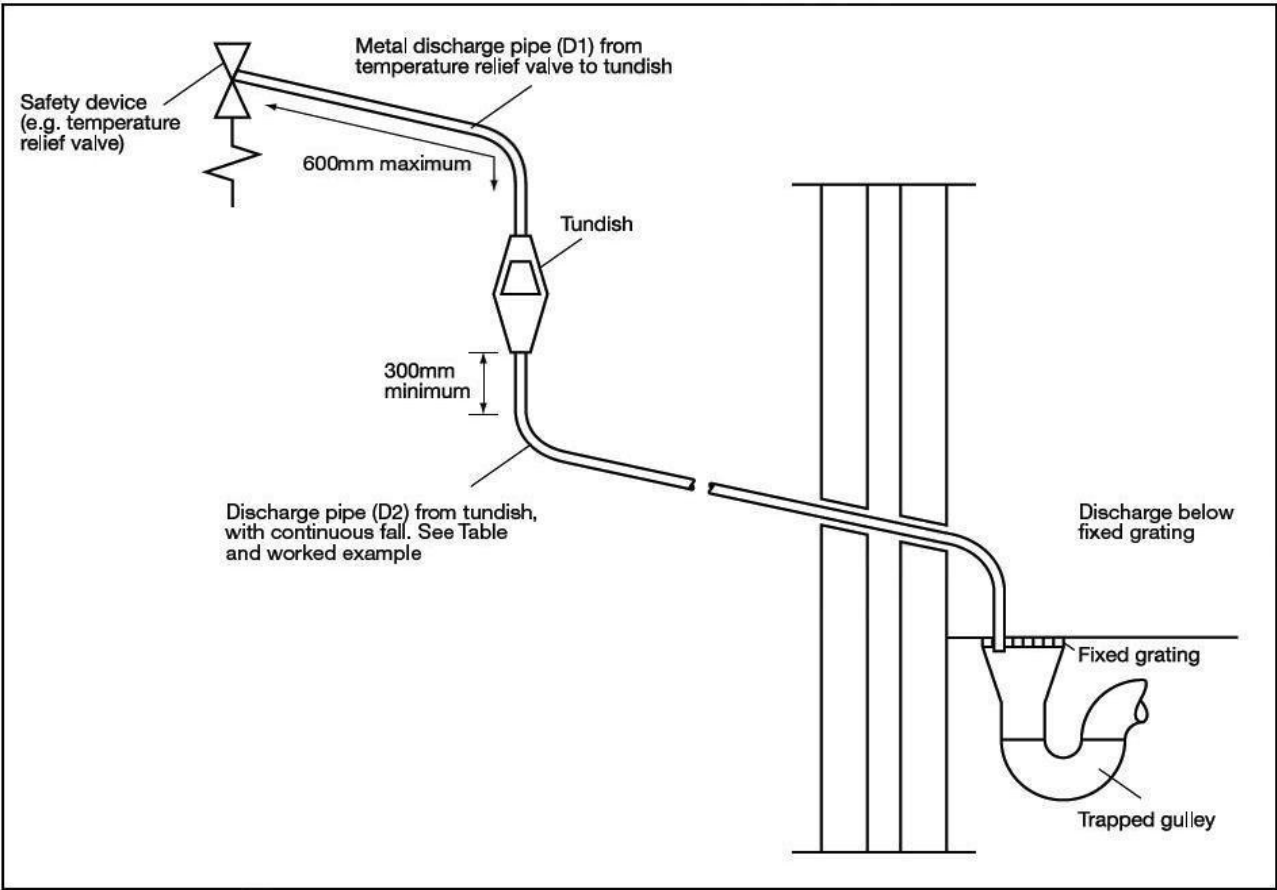

Figure 3: Typical Discharge Pipe Arrangement
The discharge pipe d2 should be at least one pipe size larger than the nominal outlet size of the safety device unless its total equivalent hydraulic resistance exceeds that of a straight pipe 9m long, i.e. For discharge pipes between 9m and 18m the equivalent resistance length should be at least two sizes larger than the nominal outlet size of the safety device; between 18 and 27m at least 3 sizes larger, and so on; bends must be taken into account in calculating the flow resistance. See Figure 3, Table 2 and the worked example.
- The tundish should be vertical, located in the same space as the unvented hot water storage system and be fitted as close as possible to, and lower than, the safety device, with no more than 600mm of pipe between the valve outlet and the tundish (see Figure 3).